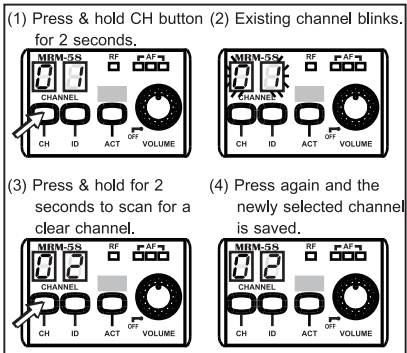

Fig. 2
- (A) MRM-58: Press and hold CH button ⑤ for two seconds, existing channel blinks. During blinking, press and hold for two seconds and it starts to scan automatically for a clear channel. Press again, the channel stops blinking and the new channel is saved. Fig. 2